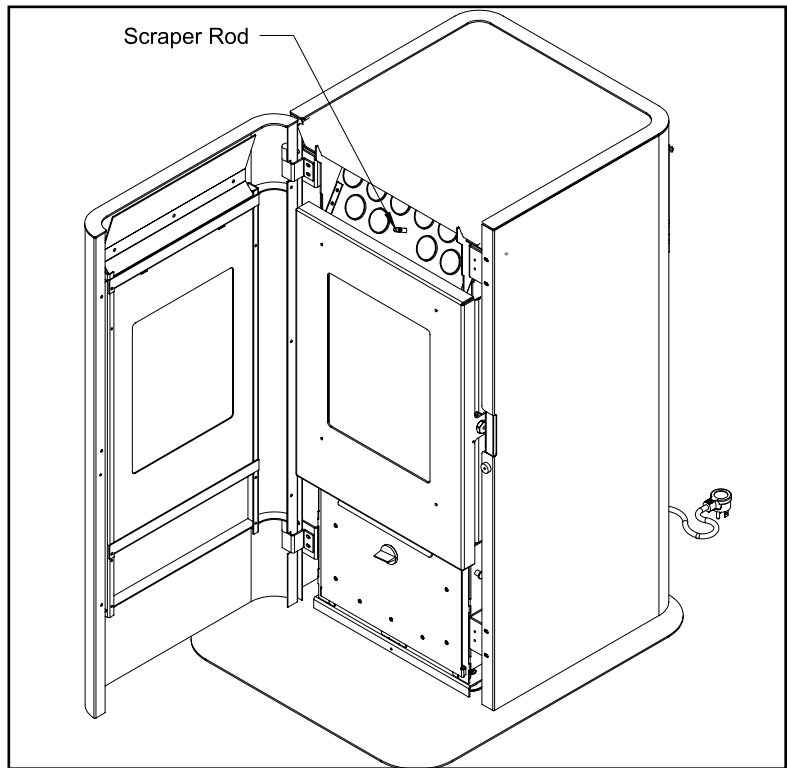

Figure 35: GF40 Heat Exchanger Tubes
A rod is located in the center of the stove just above the door behind the top louvers, see Figure 35. This rod is to be pulled up and down a few times (ONLY WHEN THE UNIT IS COLD) in order to clean away any fly ash that may have collected on the heat exchanger tubes. As different types of pellets produce different amounts of ash, cleaning of the tubes should be done on a regular basis to enable the unit to run efficiently. Do not pull on rod excessively if it is not sliding. If stuck inspect rod for bend and try and free up scraper plate from inside firebox.
- Pull out the Scraper Rod shown in Figure 35 in order to remove any fly ash that may have collected on the heat exchanger tubes. This will allow for optimal heat transfer to convection air.